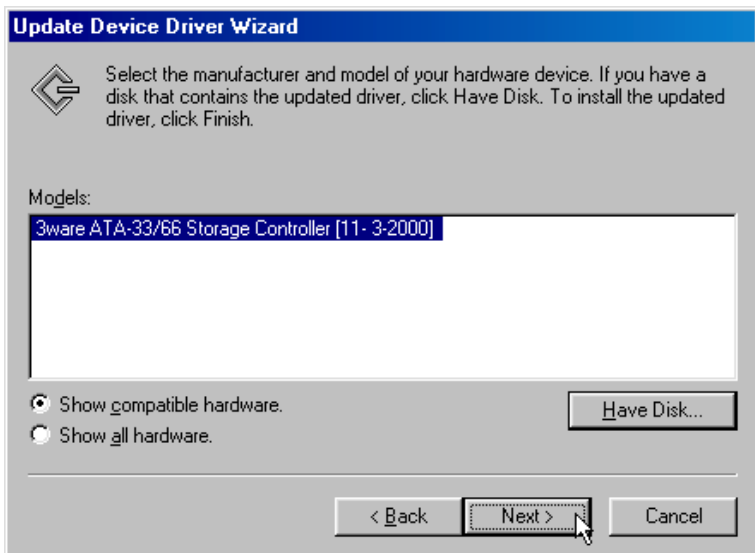

Figure 30. Update driver
- 4 The **Update Driver** dialog box appears. (See Figure 30.) Click on the 3ware storage controller listed in the dialog box to highlight it, then click on **Next**.